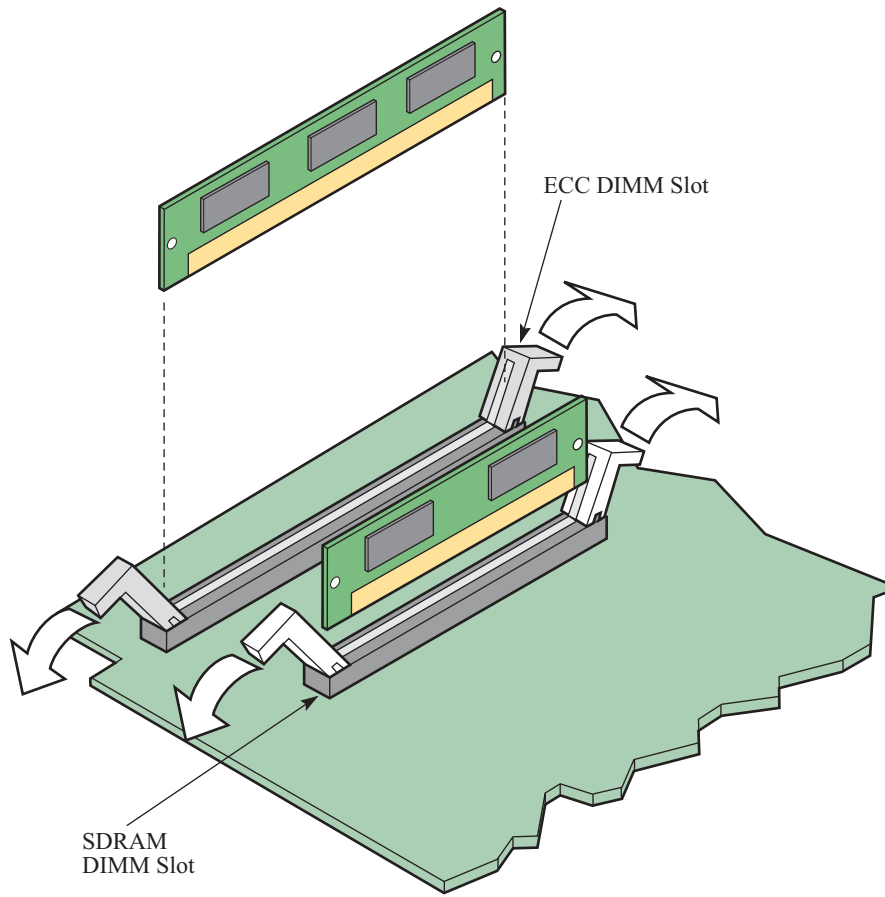

Figure 3-6. DIMM Installation/Replacement
- 1) Insert the DIMM into slot as shown in Figure 3-6.